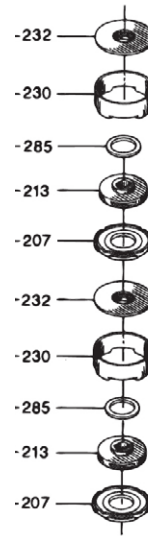

Fig. 14 Wear parts MP 1 pump
For the replacement of wear parts including impellers, see fig. 14, a service kit (art. no.: 12274301) is available. The kit includes two complete pump stages. Replace the wear parts including impellers as shown in section 10. Dismantling and assembly.
In addition, a service kit (product number 12274311) is available. This kit includes wear parts for two pumps, i.e. 4 washers, pos. 285, and 4 seals, pos. 207. See fig. 14.